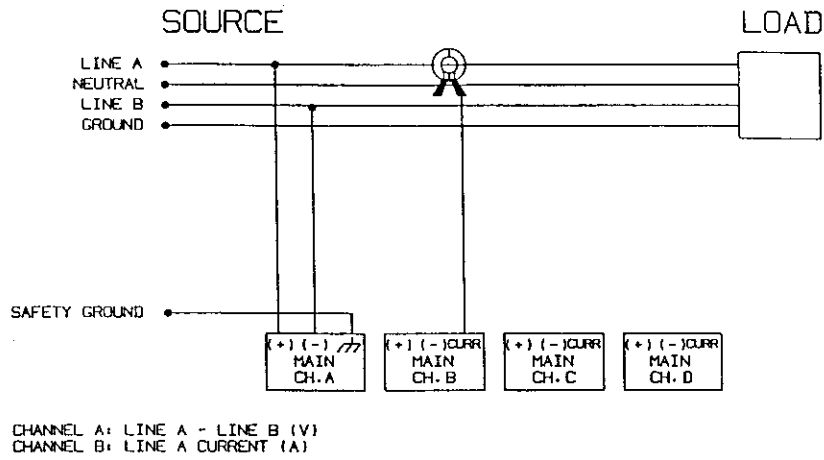
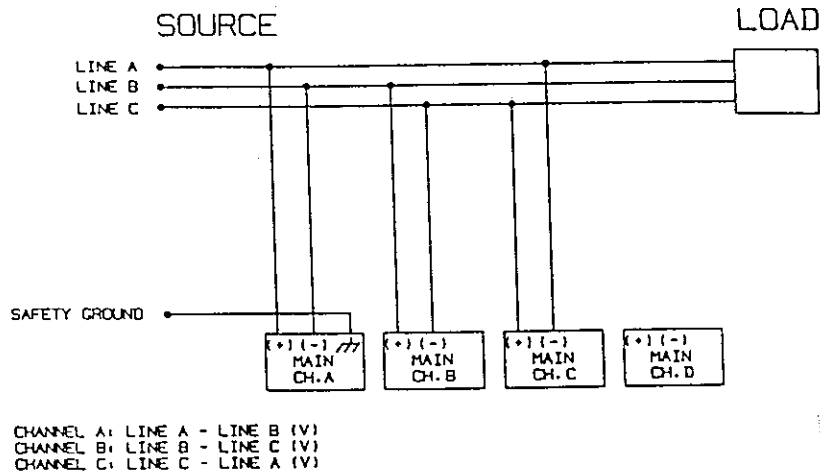

Figure 2-4. 208 VAC Single-Phase Circuit with Line Current Connection
Figure 2-5. 240 VAC Three-Phase Delta with Phase to Phase Connections
- The 658 can monitor Line A-to-Line B, and current (on one of the three remaining channels) in a 208 VAC split-phase system (illustrated in figure 2-4). This application requires two Main channels (A and B in the illustration). You could also monitor current on channels C and D while using channel A as the synchronization channel and channel B for 3-phase "delta" voltages (illustrated in figure 2-5).